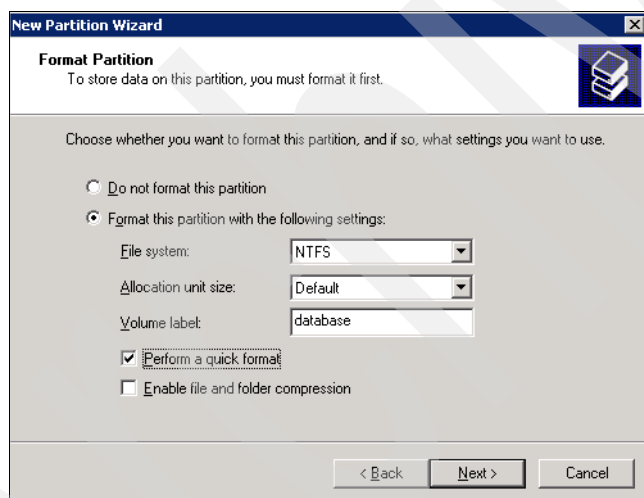

Figure 25-22 Format Partition
11. Format the partition. Select your requirements and click **Next** (Figure 25-22).